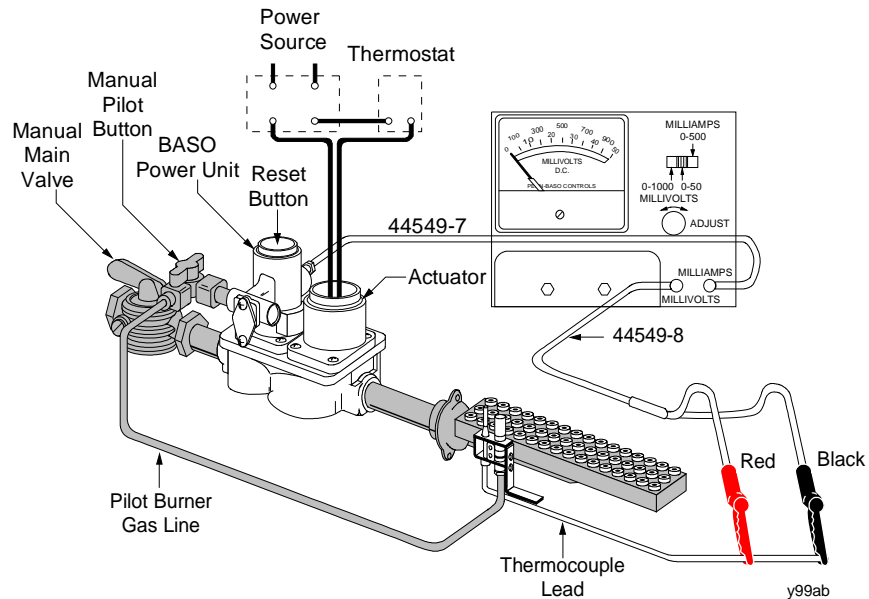

Figure 2: Using the Y99AB for the Turn Down Test
1. Disconnect the thermocouple from the BASO safety shutoff device and connect it to the test kit (see Figure 2). Hold the BASO in the open position during this test using battery power from the test kit.